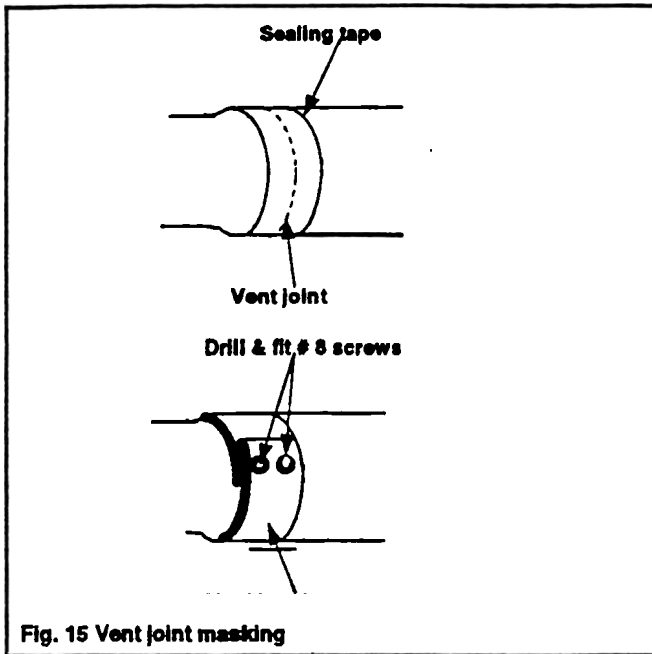

Fig. 15 Vent joint masking
- 10.18** Seal the joint between the elbow and the terminal with the sealing tape supplied (see figure 15).
- 10.19** Locate the masking collar over the joint so that it hides the tape. Squeeze the collar as tight as possible and align the two holes and slots in the collar. Mark the sealing tape at the position of the holes (see figure 15).
10.21 Place the masking collar back in position. Squeeze as tight as possible and fix over the vent joint with two #8 tapping screws (see figure 15).